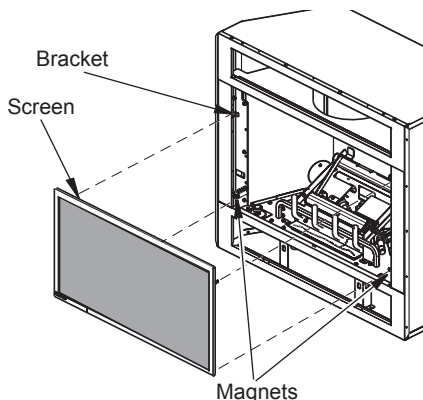

Figure 48 - Installing Fireplace Screen
4. Install fireplace screen by placing the screen brackets on top of the fireplace screen brackets as shown in Figure 48. Push the bottom of the screen inward against the magnetic catches to secure in place.